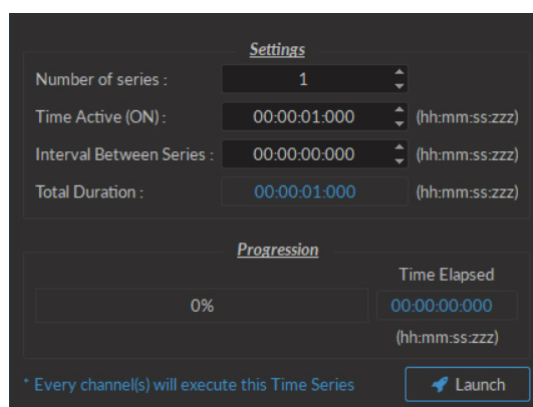

Figure 4.12: Control & Settings, Time Series Window
- The **Number of series** (Fig 4.12) sets the number of times that the sequence will be repeated, with a minimum of 1.